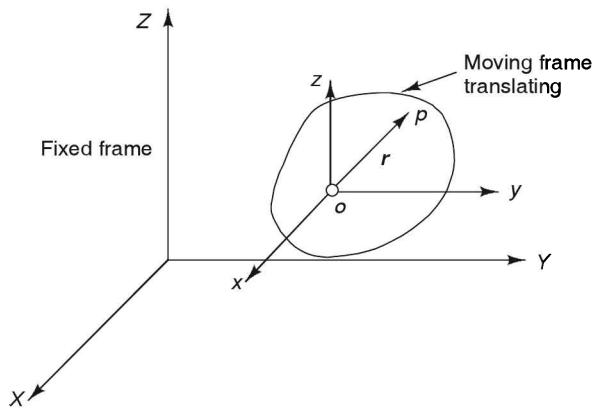

FIGURE 13.4 Constant vector (\mathbf{r}) in moving frame.
- (d) *Derivative of a constant vector (r) in moving frame.* Consider a fixed position vector \mathbf{r} of a point P located on the moving frame which is rotating with an angular velocity $\boldsymbol{\omega}$ as shown in Figure 13.4.